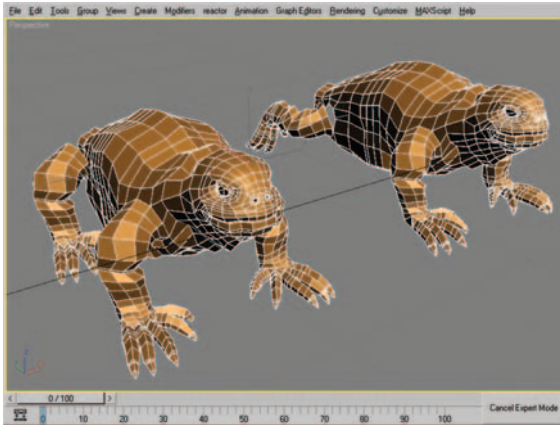

Figure 9.79 Leg position before and after rotating.
42. Rotate and move the leg so that it matches a more natural position (refer to the reference images you collected). Figure 9.79 illustrates the leg position in my example before and after rotating and moving.